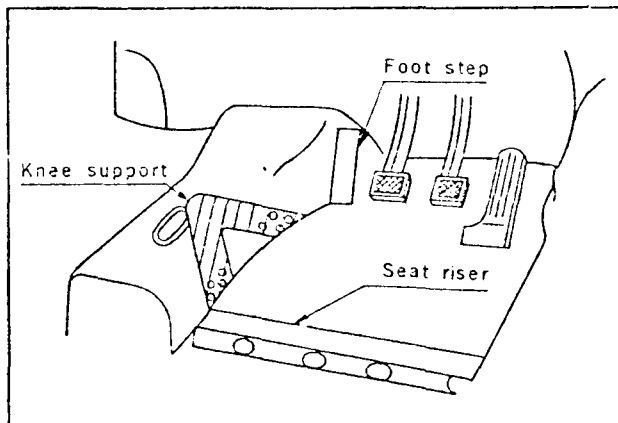

Fig. 4-11 Attaching Figure of Foot Step and Knee Support
- (1) Position foot step and knee support in accordance to the position of driver.
- (2) Attach foot step and knee support with bolts or by welding. (See Fig. 4-11)